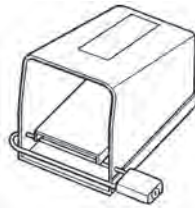

Figure 1 – Locked Foot Switch
- **Lock foot switch when not in use. (See Figure 1.)** Avoids accidental starting.